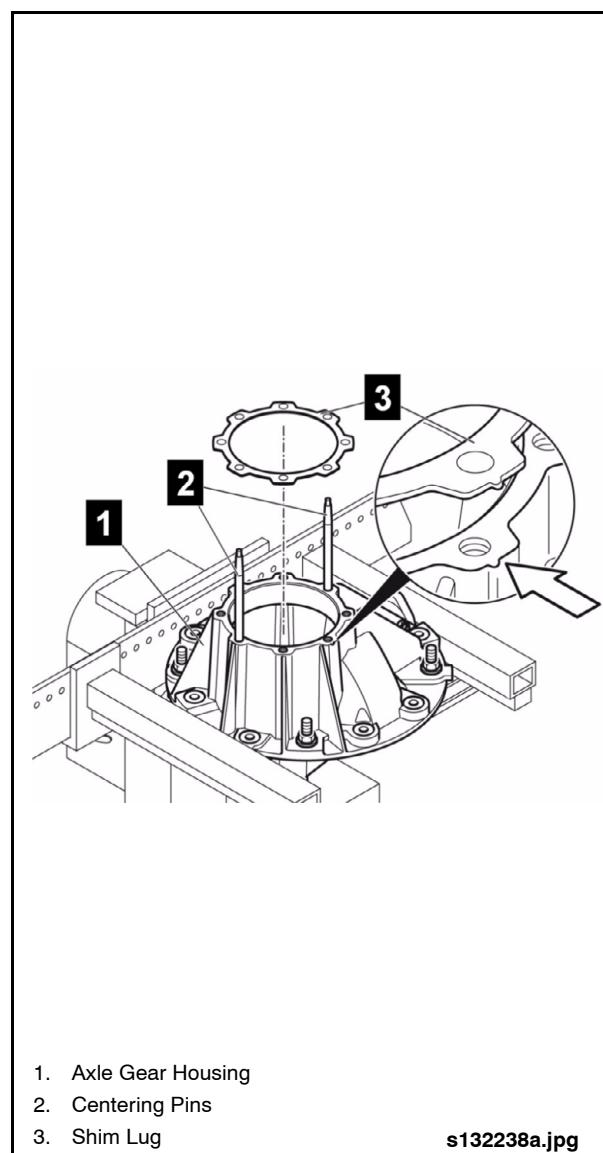

Fig. 2-81: Installing Shims
2. Install shims so that the lug on the shim aligns with the lug marking on the axle gear housing. See "Fig. 2-81: Installing Shims" on page 65.